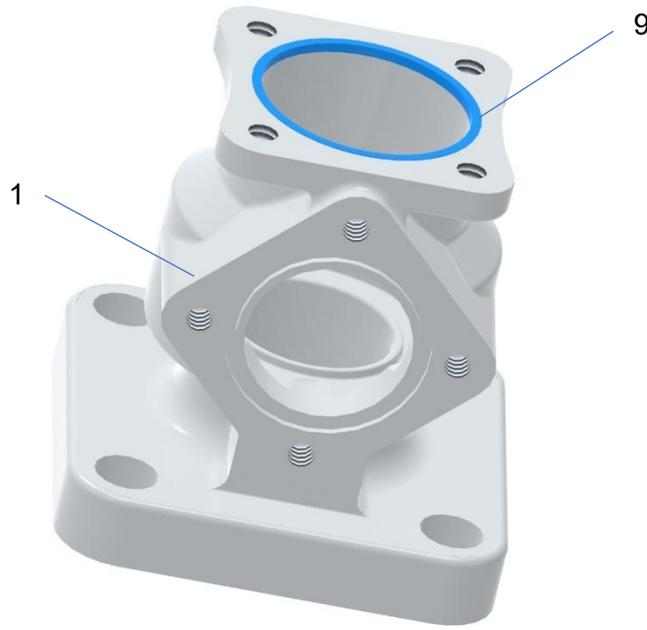

Figure 16
11.42. Refer to Figure 16.
11.43. Place the body (1) into a fixture with the inlet down as shown in Figure 16.
11.51. Place handwheel (3) onto the stem per Figure 16.